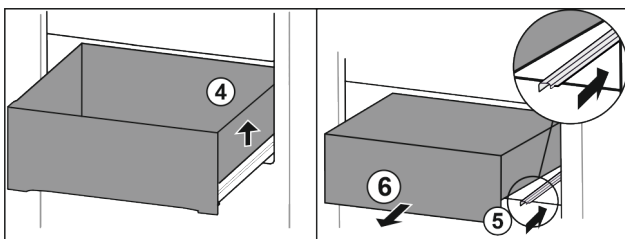

Fig. 160
- ▶ Lift drawer on the right. Fig. 160 (4)
- ▶ Insert right rail. Fig. 160 (5)
- ▶ Remove drawer to the front. Fig. 160 (6)